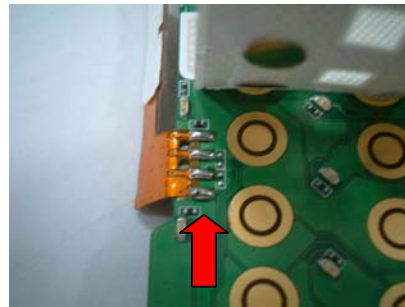

Fig.8.2
- Check that the Sidekey PCB (Fig.8.2.) is incorrectly soldered, not mechanical damaged, dirty or oxidized.